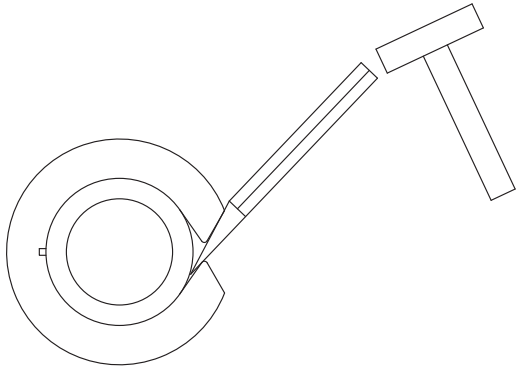

Figure 8
- 4.2.2.4 Wear spacers are slotted to allow for in-place removal. Using a narrow chisel wedged between the stud and the spacer, as shown in Figure 8, wedge/pry the wear spacer until it fractures and is clear to be removed from the stud. Repeat for the remaining spacers in the set that is to be removed.